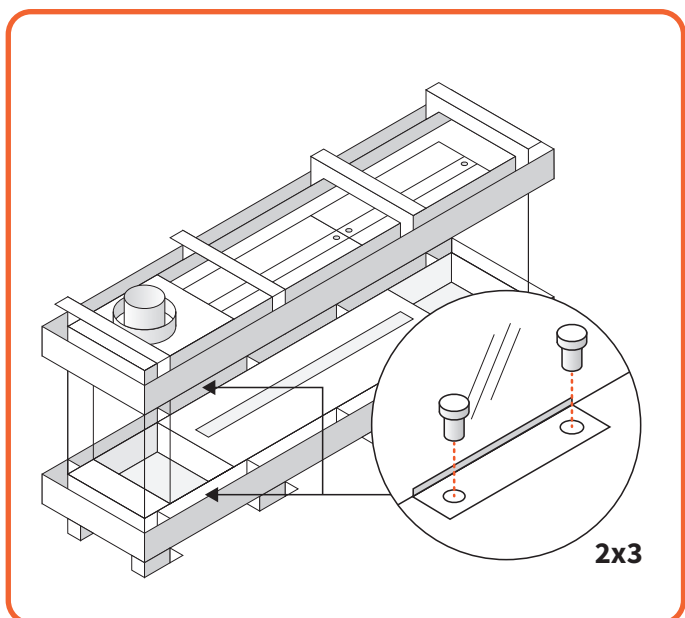

Figure 11.16 | Remove glass clamps on the sides
- Remove the glass clips by loosening the screws. (See Figure 11.16)